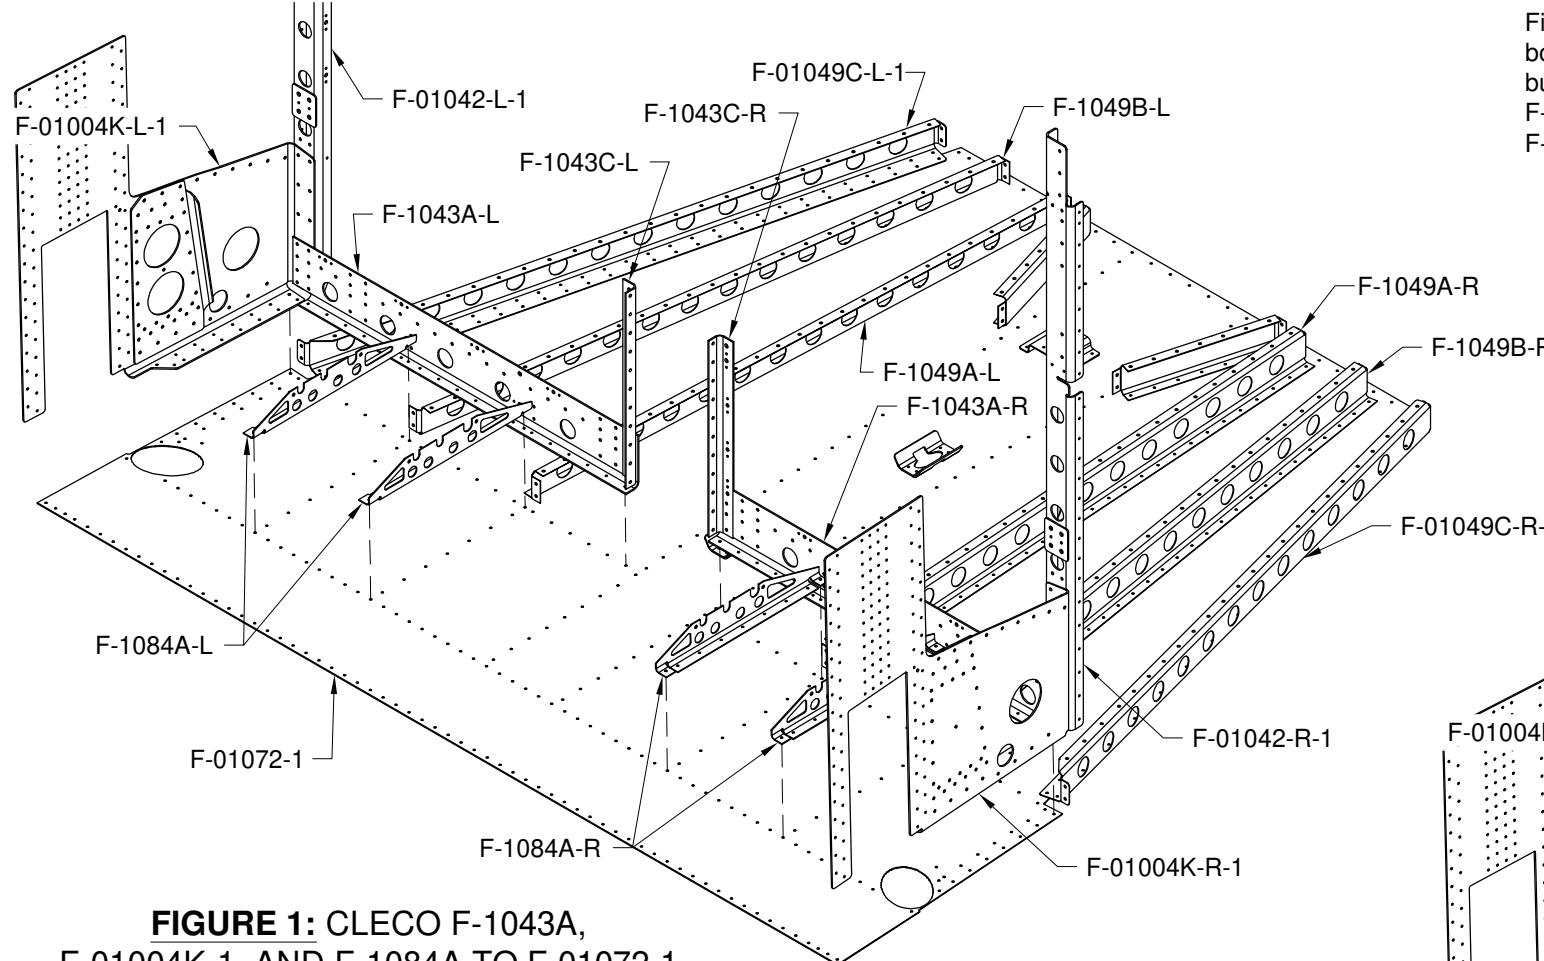

FIGURE 1: CLECO F-1043A,
Step 1: Cleco the subassembly of the F-1043A-L Fwd Fuselage Bulkhead, F-1043C-L Attach Angle, F-01004K-L-1 Center Section Side Plate, and F-01042-L-1 Bulkhead Side Channel to the F-01072-1 Fwd Fuse Bottom Skin as shown in Figure 1.
Cleco the subassembly of the F-1043A-R Fwd Fuselage Bulkhead, F-1043C-R Attach Angle, F-01004K-R-1 Center Section Side Plate, and F-01042-R-1 Bulkhead Side Channel to the F-01072-1 Fwd Fuse Bottom Skin as shown in Figure 1.
Cleco the aft tabs of the F-1049A-L & R, F-1049B-L & R, and F-01049C-L-1 & -R-1 Fwd Fuselage Floor Ribs to the fwd fuselage bulkheads. See Figure 1.
Cleco the F-1084A-L and F-1084A-R Systems Brackets to the F-01072-1 Fwd Fuse Bottom Skin and F-1043A-L and F-1043A-R Fwd Fuselage Bulkheads as shown in Figure 1. Do not insert a cleco into the single hole in the aft tab of the systems brackets.